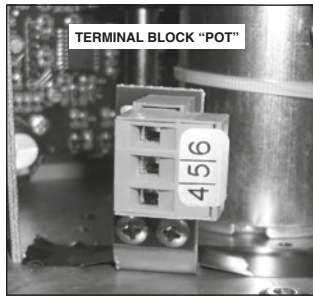

Fig.5 Electric actuator particular of the terminal block "POT"
6.3 Potentiometer wirings (optional) (Fig.5)
The actuator with potentiometer includes an extra terminal block "POT" (Fig.5) which grants the possibility to use the resistive information concerning the actuator position. Wiring instruction presented at Paragraph 10.0. When the actuator is at 45°, the resistance value of the potentiometer is 2,5KΩ